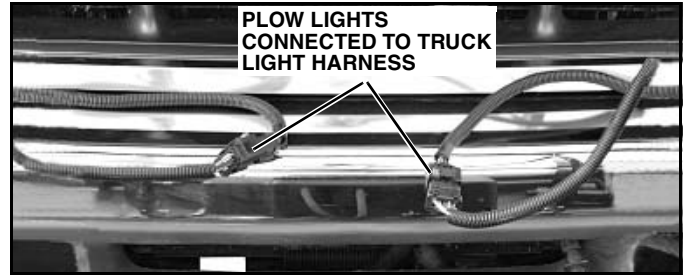

Figure 1-38
2. Plug EIS[®] plow light connectors into mating connectors on truck light harness. (See Figure 1-38).